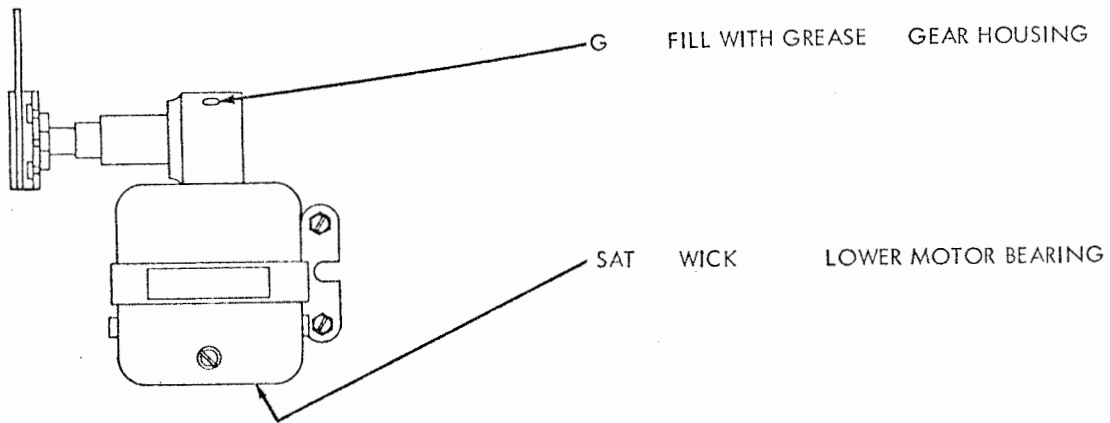

Figure 6. Paper Winder
Paper winders are completely adjusted and checked at the factory. The following adjusting information is furnished as a convenience for the attendant who desires to check the adjustments or to readjust the unit (for Bell System refer to standardized adjustment information). Make the adjustments shown in Figure 6.
4. LUBRICATION (Figure 6)